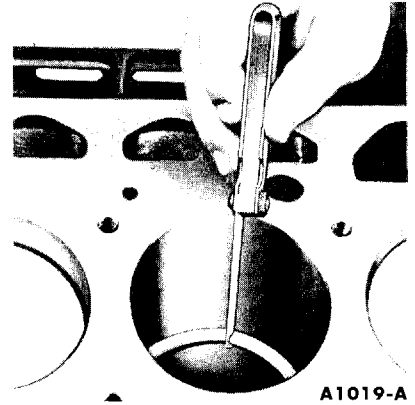

FIG. 22—Piston Ring Gap
5. Measure the gap between the ends of the ring with a feeler gauge (Fig. 22). If the ring gap is less than the recommended lower limit, try another ring set.